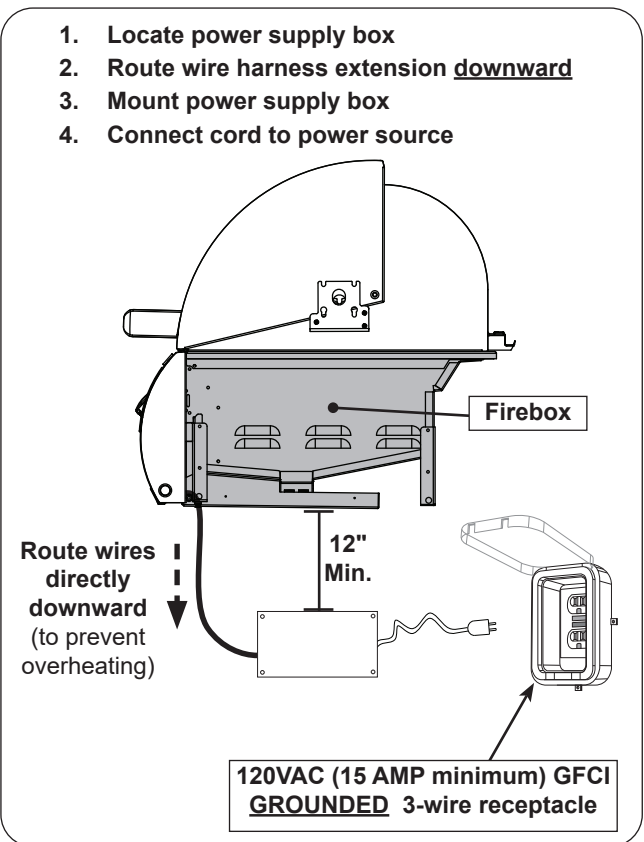

Fig. 27-2 Electrical installation
1. Route the power supply box below the control panel and directly downward. This will prevent overheating. **DO NOT** route the harness below the unit firebox. See Fig. 27-2.
- located at least **12"** below the bottom of the unit (see Fig. 27-2)
3. Connect the power cord to a **120VAC (15AMP minimum) GFCI GROUNDED three-wire receptacle** (see Fig. 27-2). The GFCI receptacle must be a WEATHER-PROOF IN-USE COVERED RECEPTACLE.